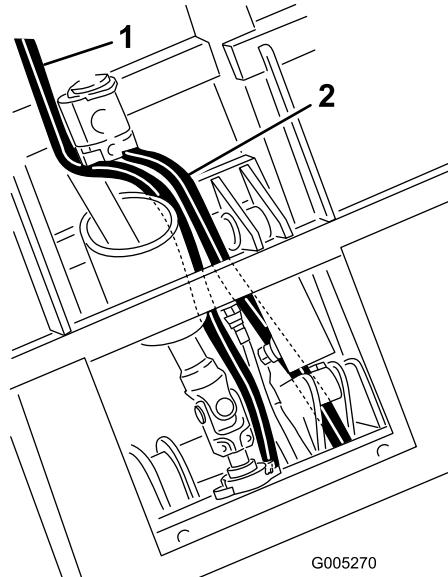

Figure 19
- Route the tank hose under the lift cylinder and between the cylinder-mounting brackets to the valve (Figure 19).
- Route the pressure hose along side the PTO shaft to the valve (Figure 19).